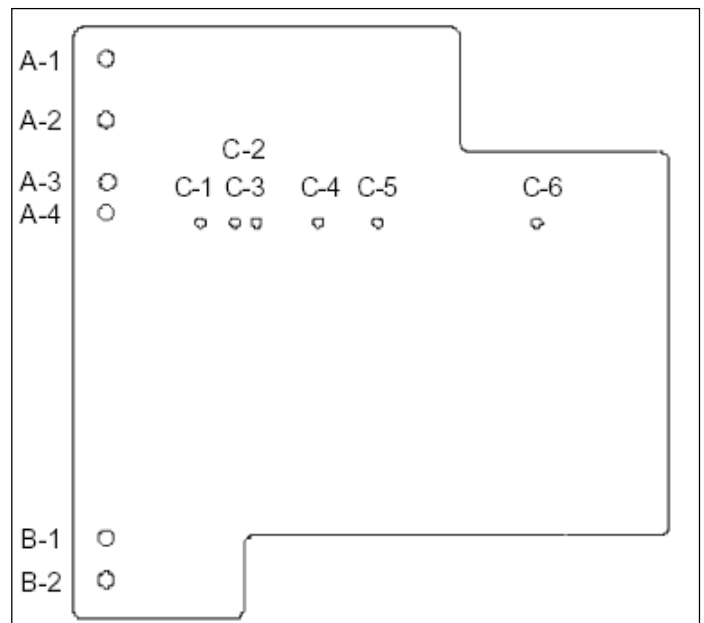

Figure 6-19 Front view of closure tool showing Mounting/testing locations (6352C49H01)
Step 5 - Mount the transparent CloSure™ Test Tool with two bolts and washers. Refer to Figures 6-19, 6-20 and Table 6.4 for appropriate mounting holes. Hand tighten the bolts (Figures 6-9, 6-10, 6-19 and 6-20).
Step 6 - A Sanford® Sharpie® black fine point permanent marker, item no. 30001, is recommended for this next step. Place the marker tip in the proper hole (“C”). Refer to Figure 6-19 and make a heavy mark on the tape as shown in Figure 6-10.